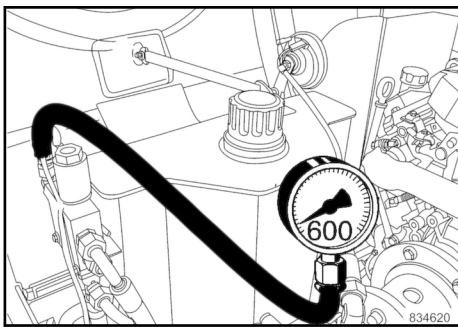

Fig. 127
2. Connect a 600 bar pressure gauge to the steering pressure test port ↪ Fig. 127.